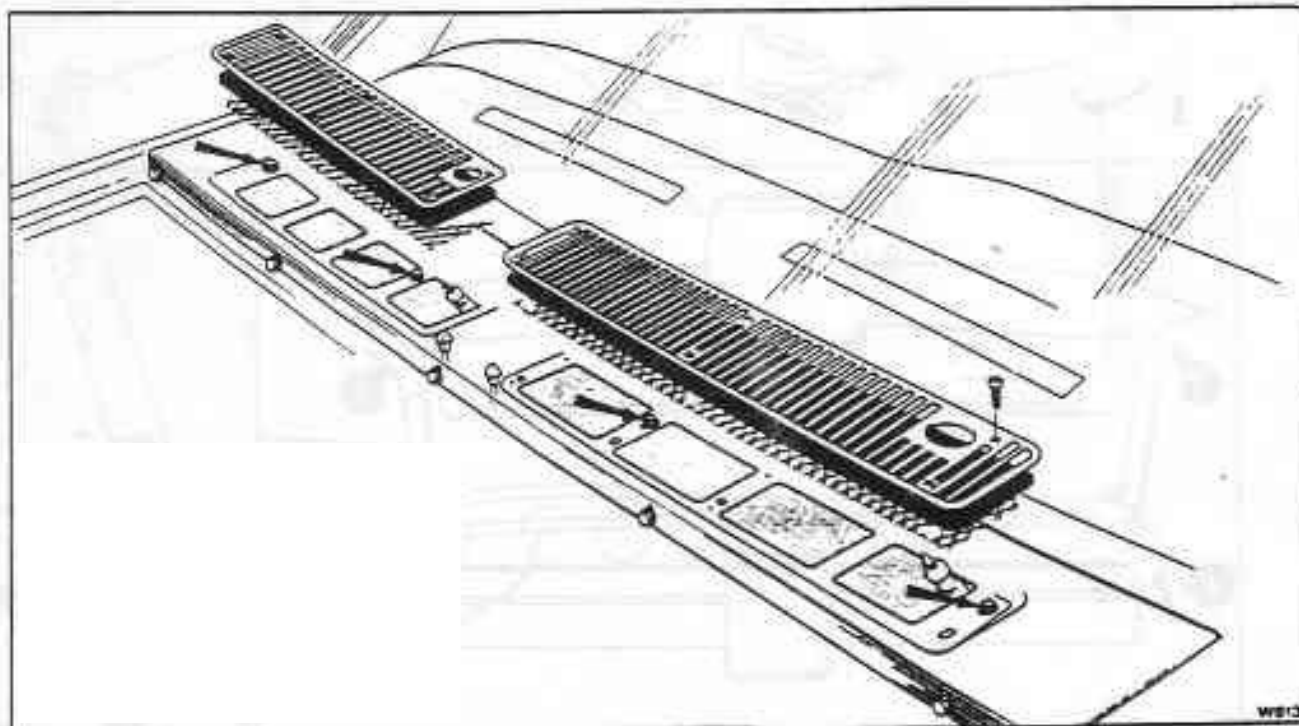

Fig. S10-2 Removing the air intake grilles and scuttle panel
5. Remove the air intake grilles (see fig. S10-2).